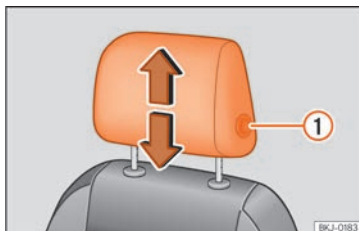
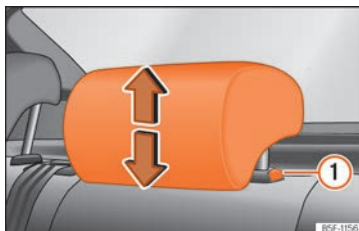

Fig.104 Front seat: headrest adjustment.
Fig.105 Rear headrest: headrest adjustment.
- Move the headrest up or down in the direction of the corresponding arrow. Regarding the rear headrest, to both raise and lower, press the button » Fig. 104 ①; for the rear headrests it is only necessary to press the button » Fig. 105 ① to lower them » ⚠ in Introduction on page 125.
- Press the side button » Fig. 104 ① and remove the headrest.